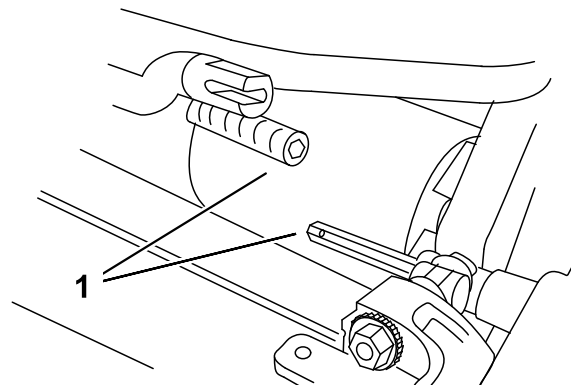

Figure 7
3. Push the cutting unit under the traction unit and to the left to engage the transmission coupling (Figure 7).